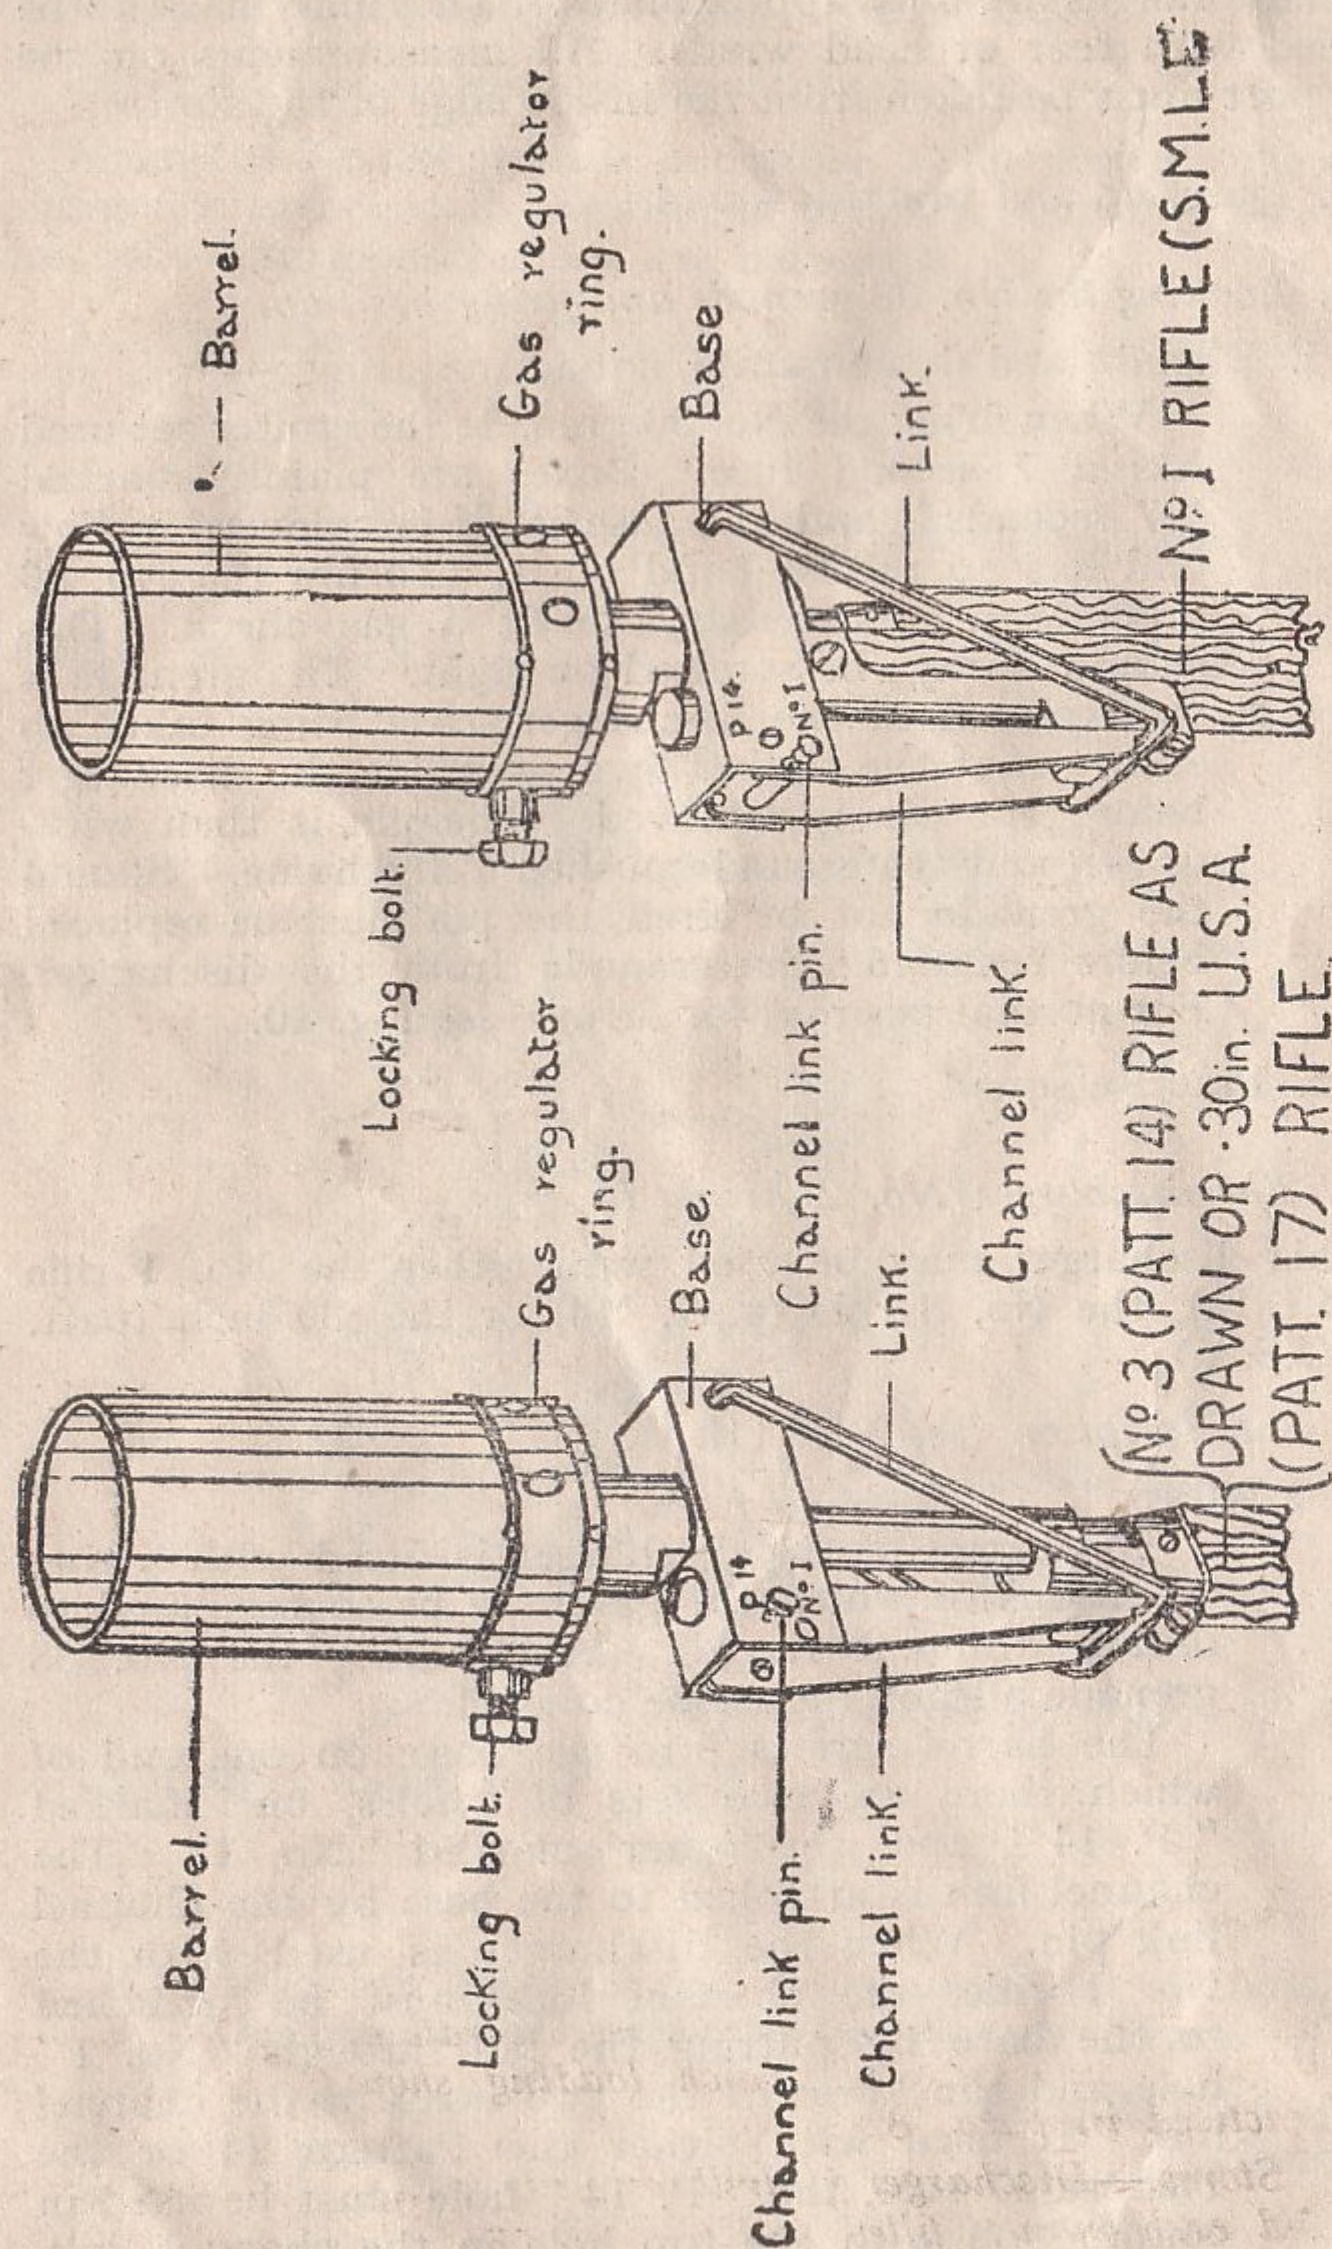

FIG. 11
- i. Description (see Fig. 11).